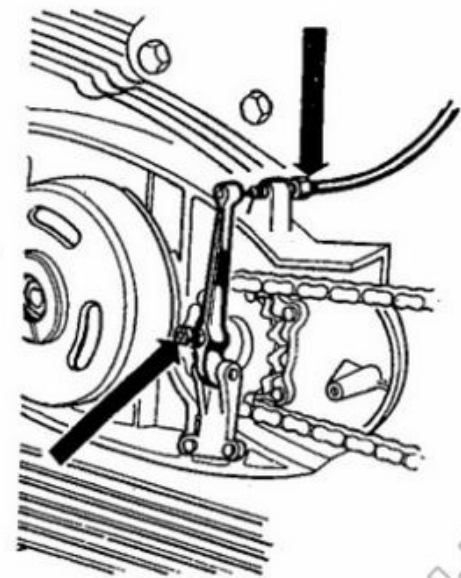

Fig. 7
- Verify the clutch control and adjust as shown in Fig. 7 Maintain the necessary slack at the clutch lever.